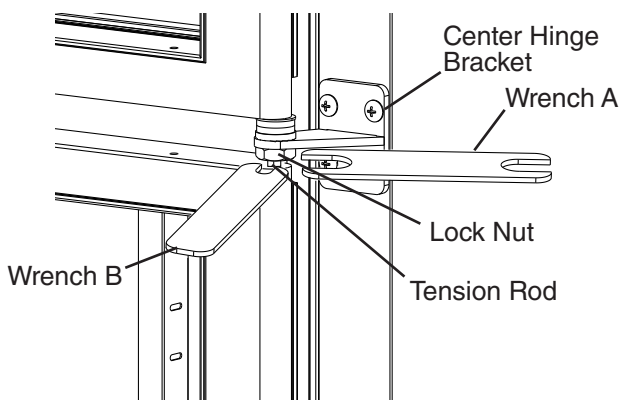

Fig. 47
- 3) At the center hinge, place wrench B on the tension rod and hold (prepare for tension pressure), then using wrench A, loosen the lock nut. See Fig. 47.